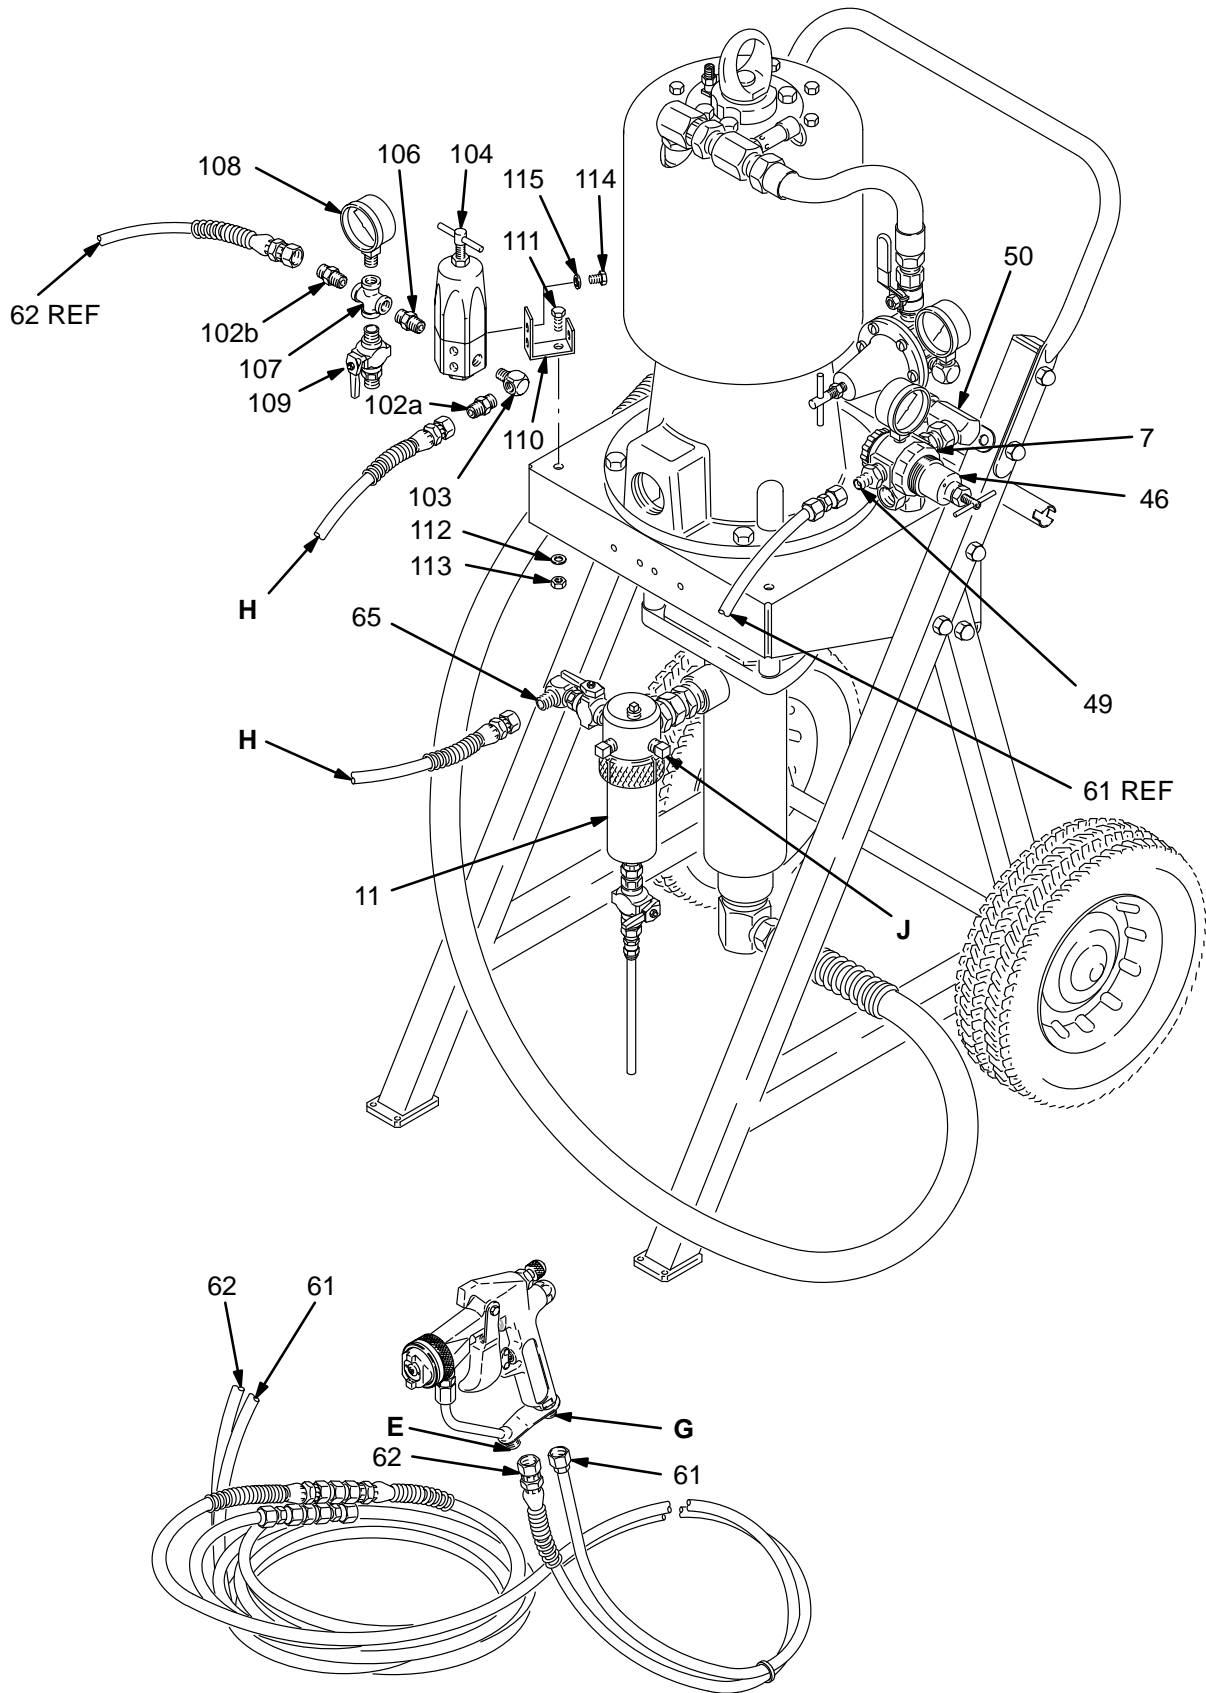

Fig. 2
1. Refer to Fig 2. Attach the fluid regulator mounting bracket (110) to the regulator (104) with the two screws (114) and lockwashers (115). The large hole in the mounting bracket should face down.
2. Assemble the remaining parts of the fluid regulation kit as shown in Fig 2. Do not connect the hoses (H and 62) yet.
3. Install the fluid regulator bracket (110) in the hole in the corner of the cart's pump bracket, using the screw (111), lockwasher (112) and nut (113). See Fig 2.
4. Discard the 559 mm (22 in.) hose (101, not shown) supplied with the kit, and replace it with the 0.9 m (3 ft) Hose 214–912 (H). Connect the hose (H) between the fluid regulator inlet nipple (102a) and the elbow (65) at the outlet of the fluid filter (11).
5. Connect the gun air supply hose (61) between the air inlet (G) of the gun (63) and the outlet nipple (49) of the gun air regulator (46).
6. Connect the fluid hose (62) between the fluid inlet (E) of the gun (63) and the outlet nipple (102b) of the fluid regulator (104).
1. Refer to Fig 2. Disconnect the existing gun air regulator (46) and gauge from the swivel adapter (50). Remove the nipples (49 and 7) from the regulator. Remove the side plug (J) from the filter (11).